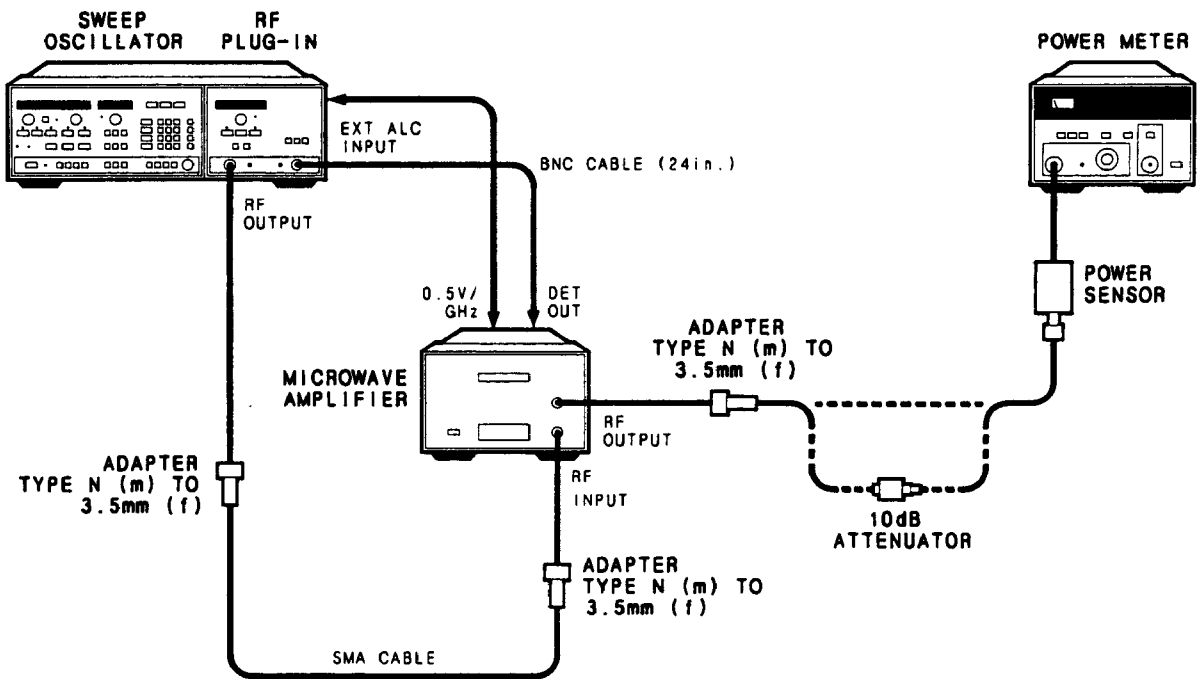

Figure 4-2. Levelled Output Power and Flatness Test Setup
34. Connect the equipment as shown in Figure 4-2 with the power sensor connected to the HP 8349B's RF OUTPUT (attenuator not installed).
38. Connect the 10 dB attenuator between the adapter and the power sensor as shown in Figure 4-2. While monitoring the power meter, adjust the manual frequency from 2 to 18.6 GHz and determine the frequency of the maximum power point. Return the sweep oscillator to the frequency of the maximum power point.
41. Connect the equipment as shown in Figure 4-2 with the power sensor connected to HP 8349B's RF OUTPUT (attenuator not installed).
45. Connect the 10 dB attenuator between the adapter and the power sensor as shown in Figure 4-2. While monitoring the power meter, adjust the manual frequency from 2.0 GHz to 20 GHz and determine the frequency of the maximum power point. Return the sweep oscillator to the frequency of the maximum power point